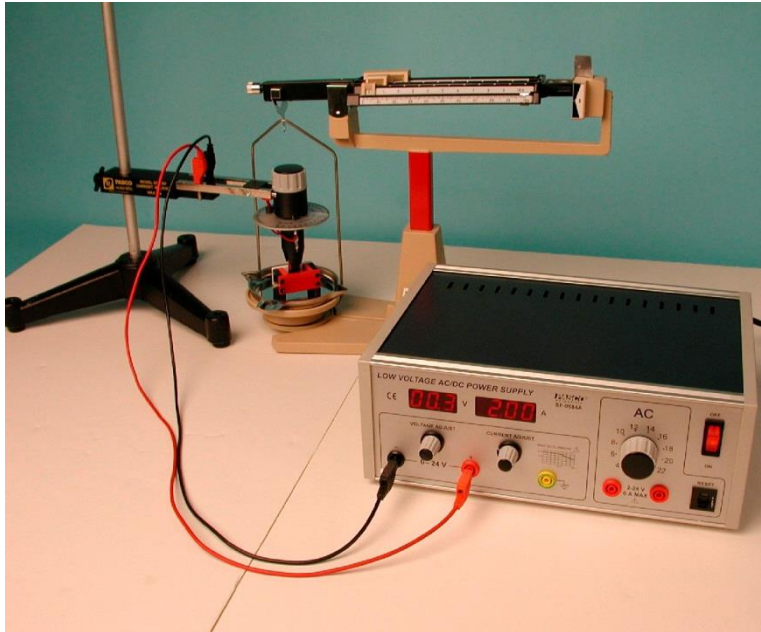

Figure 4: Experimental Setup
1. Place the smaller magnet holder from the Current Balance Accessory on the mass tray of the balance. (See Figure 4)